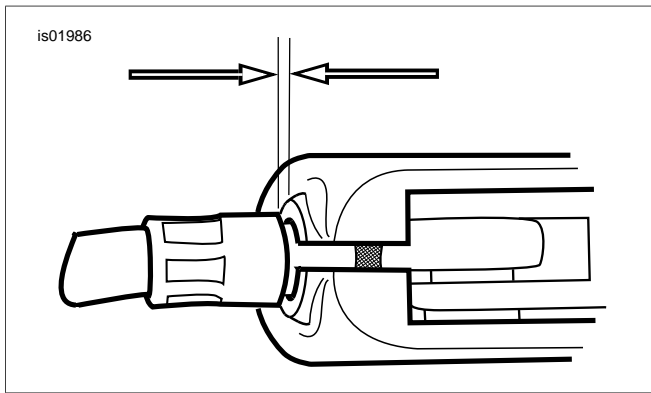

Figure 2. 1/16-1/8 inch (1.6-3.2 mm) Clutch Cable Free Play
- e. See Figure 2. Turn cable adjuster away from jam nut until slack is eliminated at hand lever. Pull clutch cable ferrule away from clutch lever bracket to check free play. Turn cable adjuster to obtain 1/16-1/8 inch (1.6-3.2 mm) free play between end of cable ferrule and clutch lever bracket.